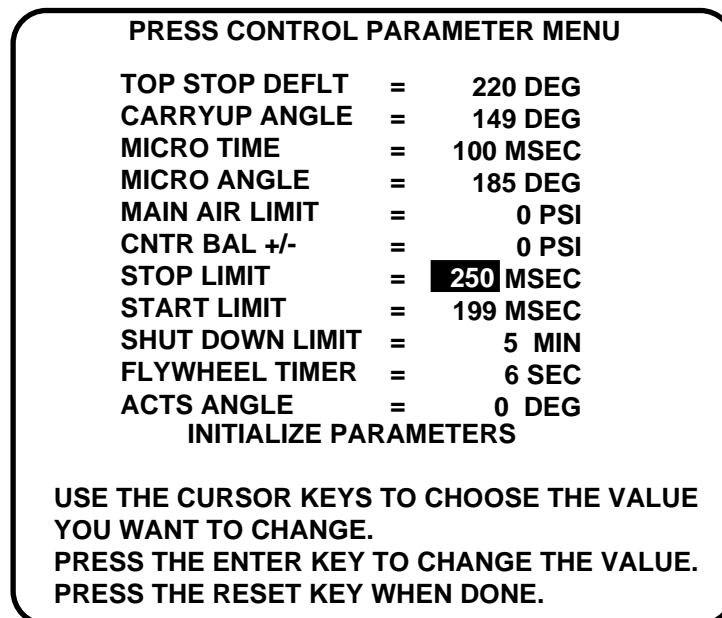

Figure 4-12. "Press Parameters" display in SmartPAC's Initialization mode
- Select "Press Parameters." You will see a display similar to Figure 4-12. Use the cursor keys to select "Start Limit." Notice the value for Start Time Limit will be highlighted.
9. Now go back to the Main Initialization menu (Figure 4-1). Select "Press Control." The WPC Initialization menu appears, Figure 4-2. Select "Press Parameters." A menu like Figure 4-12 appears. Notice that the value of the Top Stop Default angle is highlighted. Press ENTER. Using the number keys, change it to the same angle as the Top Stop Angle and then press ENTER. Press RESET twice to return to the Initialization menu.